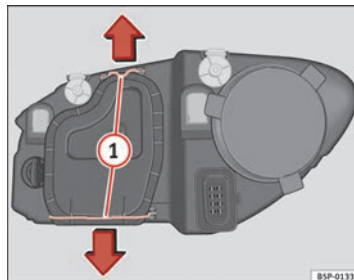

Fig. 188 Dipped beam headlights
- Remove the loops ⇒ fig. 188 **1** in the direction of the arrow and remove the cover. ▶